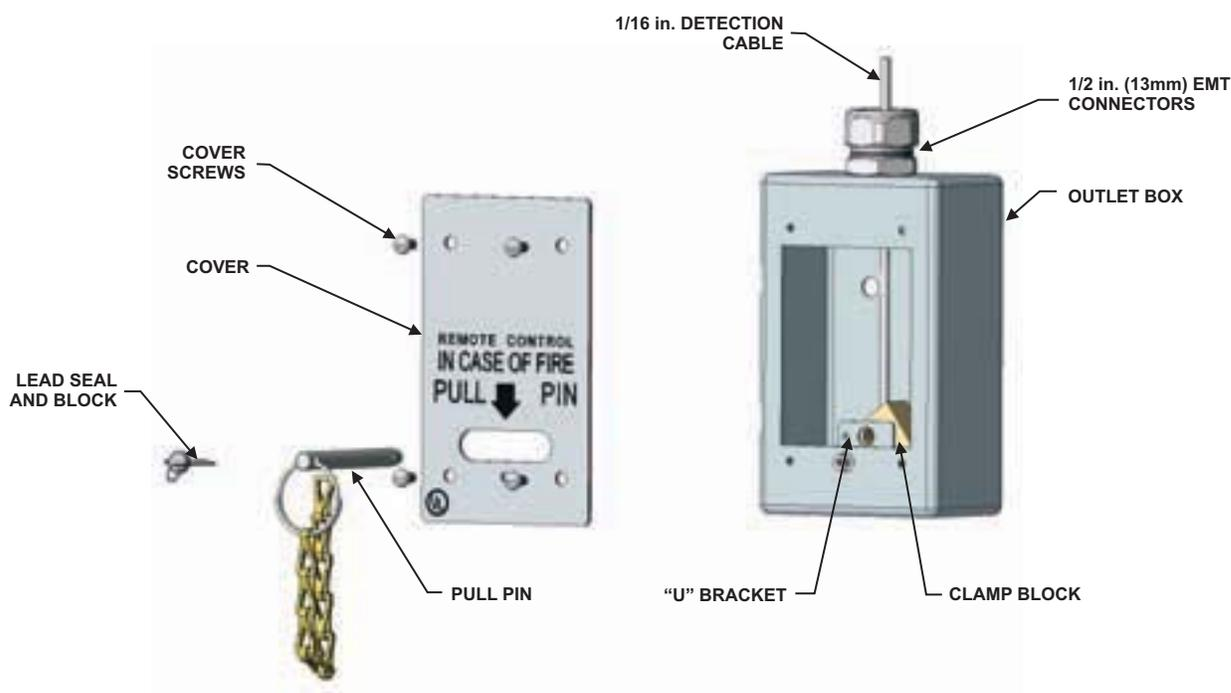

Figure 4-64. End-of-Line Remote Manual Control, P/N 9197463
5. Before replacing the cover plate, a lead seal and wire (or equivalent) must be fastened through the ring of the pull pin and through the front hole of the "U" bracket (Figure 4-64).
3. Run the cable down through the vertical conduit to an end-of-line Surface Mounted Manual Control Box. Insert cable through conduit connector on one side of the roll pin (Figure 4-64).